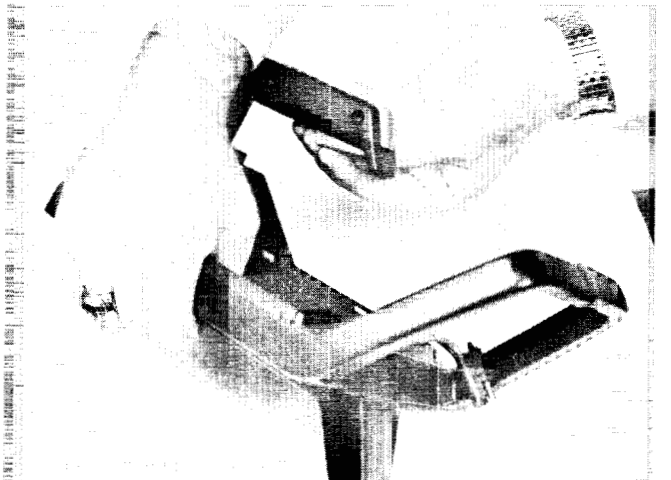

Figure 5.41k
- e. Place the remaining half of the battery case over the trigger mechanism, assuring the charging receptacle is in place. Secure the case halves (fig. 5.41k).